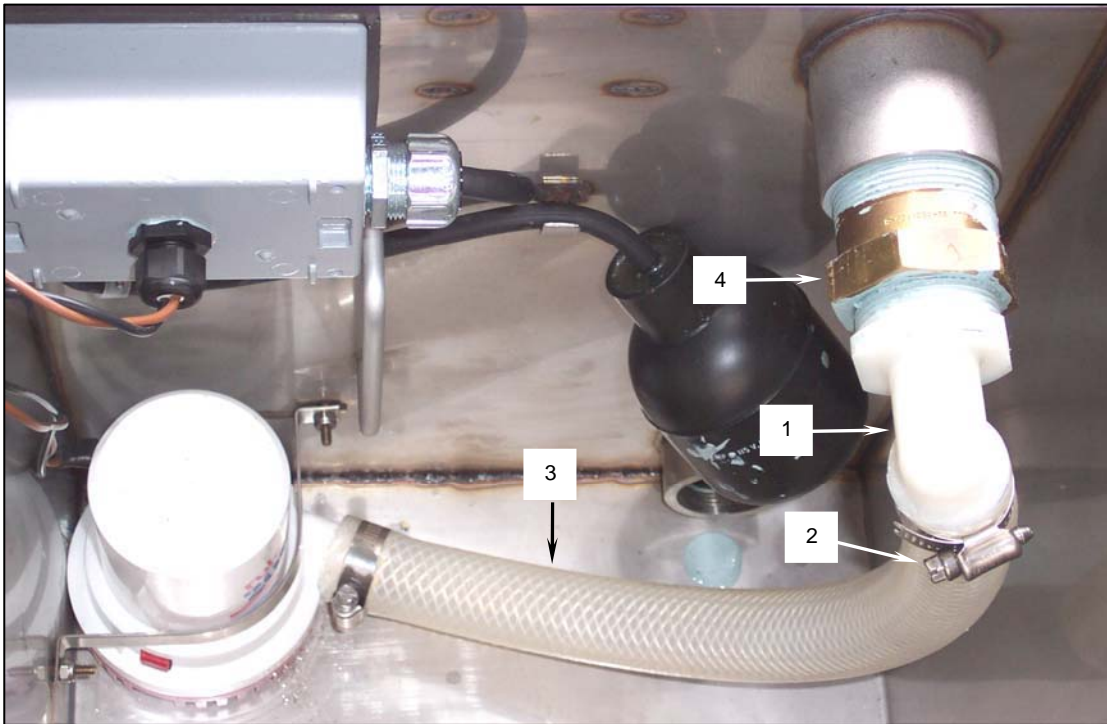

Figure 1. Replacing the Grease Separator Hose Adapter Elbow.
2. Remove the hose adapter elbow (**Figure 1, Item 1**) as follows:
- a. Loosen the hose clamp (**Figure 1, Item 2**) that secures the pump discharge tubing (**Figure 1, Item 3**) to the hose adapter elbow (**Figure 1, Item 1**). Pull the tubing off the elbow.
- b. Unthread the hose adapter elbow (**Figure 1, Item 1**) from the check valve (**Figure 1, Item 4**).
- a. Apply sealing compound to the external threads of the new hose adapter elbow (**Figure 1, Item 1**) and thread the elbow into the check valve (**Figure 1, Item 4**).
- b. Make sure the hose clamp (**Figure 1, Item 2**) is over the pump discharge tubing (**Figure 1, Item 3**), then secure the tubing (**Figure 1, Item 3**) to the hose adapter elbow (**Figure 1, Item 1**) using the hose clamp (**Figure 1, Item 2**).